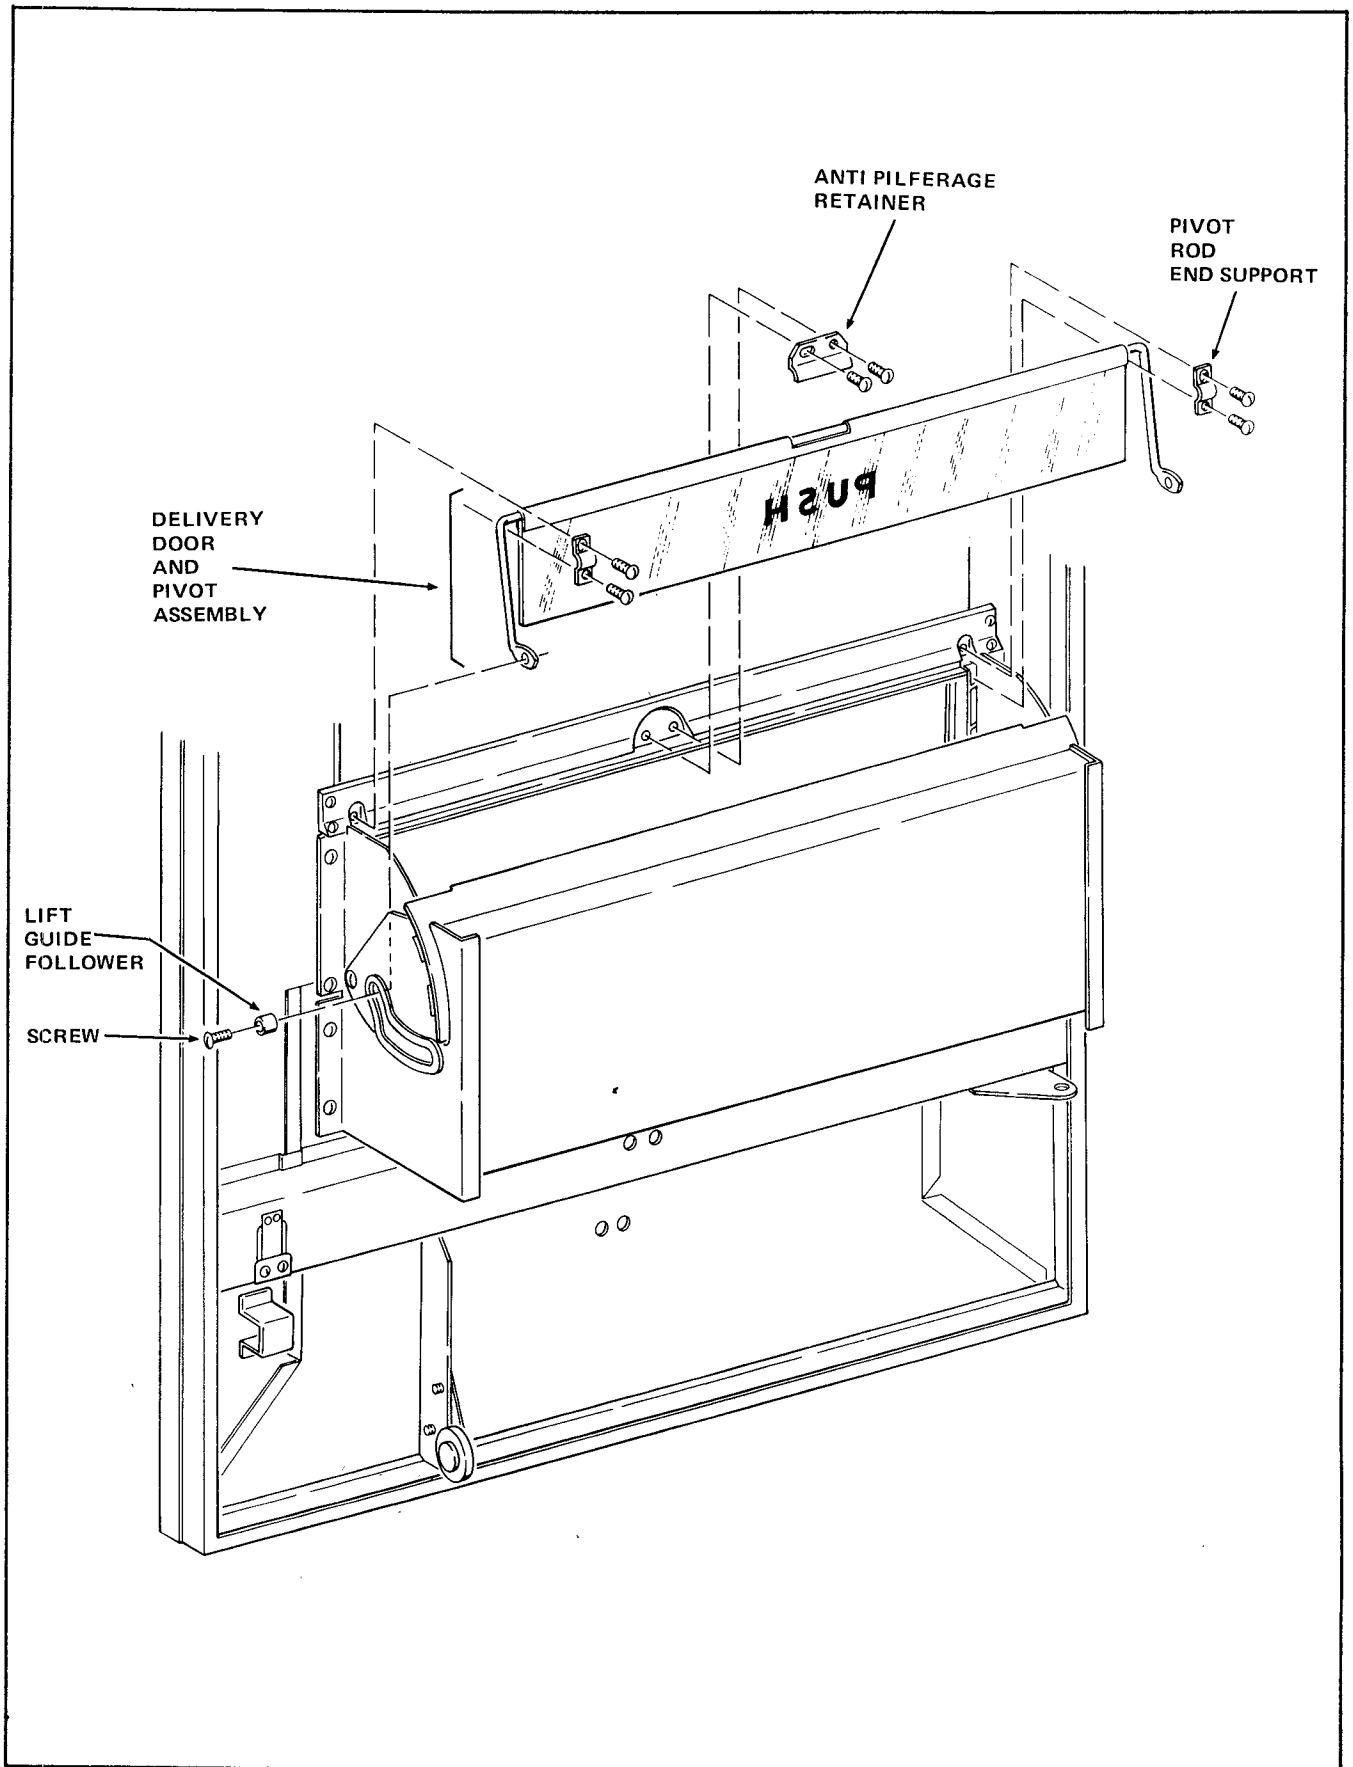

FIGURE 1
2. Remove the screw and Lift Guide Follower from each side of the Delivery Pan Assembly. See Figure 1. Discard these parts.
3. Remove the two screws and the Pivot Rod End Support from each end of the Delivery Door Pivot Rod. Retain these parts for use in Section B, INSTALLATION OF THE KIT. See Figure 1.
4. Remove the two screws and the Anti Pilferage Retainer from the Door. Retain these parts for use in Section B, INSTALLATION OF THE KIT. See Figure 1.
5. Remove the Delivery Door and Pivot Assembly from the Door. See Figure 1.